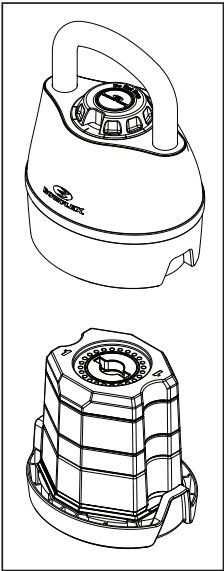

Figure 2
- 5. With the adjustment knob set to 8 (3.5), pull the handle straight up from the kettlebell. This will remove only the hull from the base, leaving all of the weight plates on the base (Fig. 2). The handle without plates represents the starting weight of 3.5 kg (8 lb).